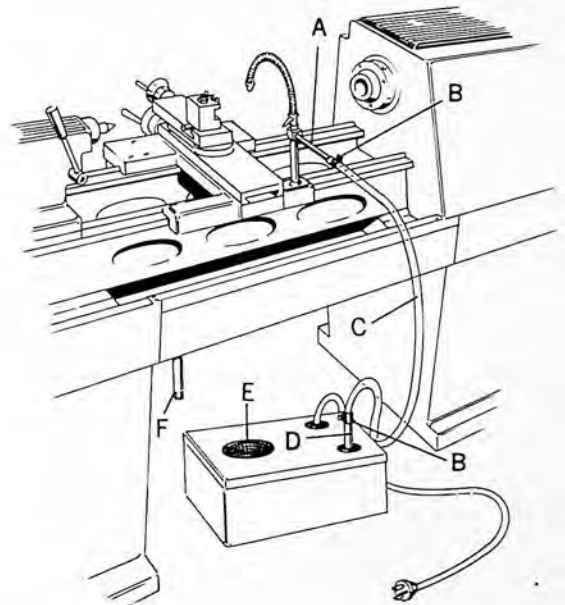

Figure 3
7. Pull electrical cord (B) through hole in cover (C).
8. Install grommets (A).
9. Screw coupling (G) on pump.
10. Install fitting (D).
11. Install wire strainer (E, Fig. 3) on pump cover.
13. Install plastic tubing (C) on fitting (A) and fitting (D) - secure with clamps (B).
14. Install 1/2 inch pipe nipple (F) in chip pan drain.
15. Fill tank with coolant; tank capacity is 10 gallons. Position strainer (E) under return nipple (F) in chip pan.